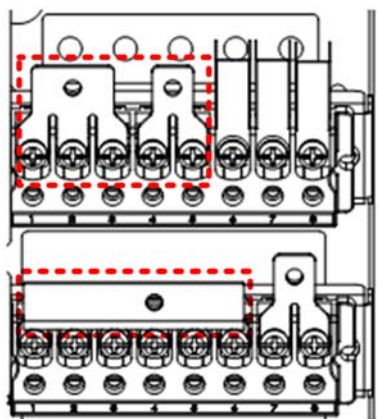

Figure 8-11 3-in 1-out, common input configuration (2)
- b) Install the copper shorting bars on the input terminals (mA, bA, bB, bC), and use the output shorting copper bars to connect the output terminals (oA, oB, oC) together. See Figure 8-11.